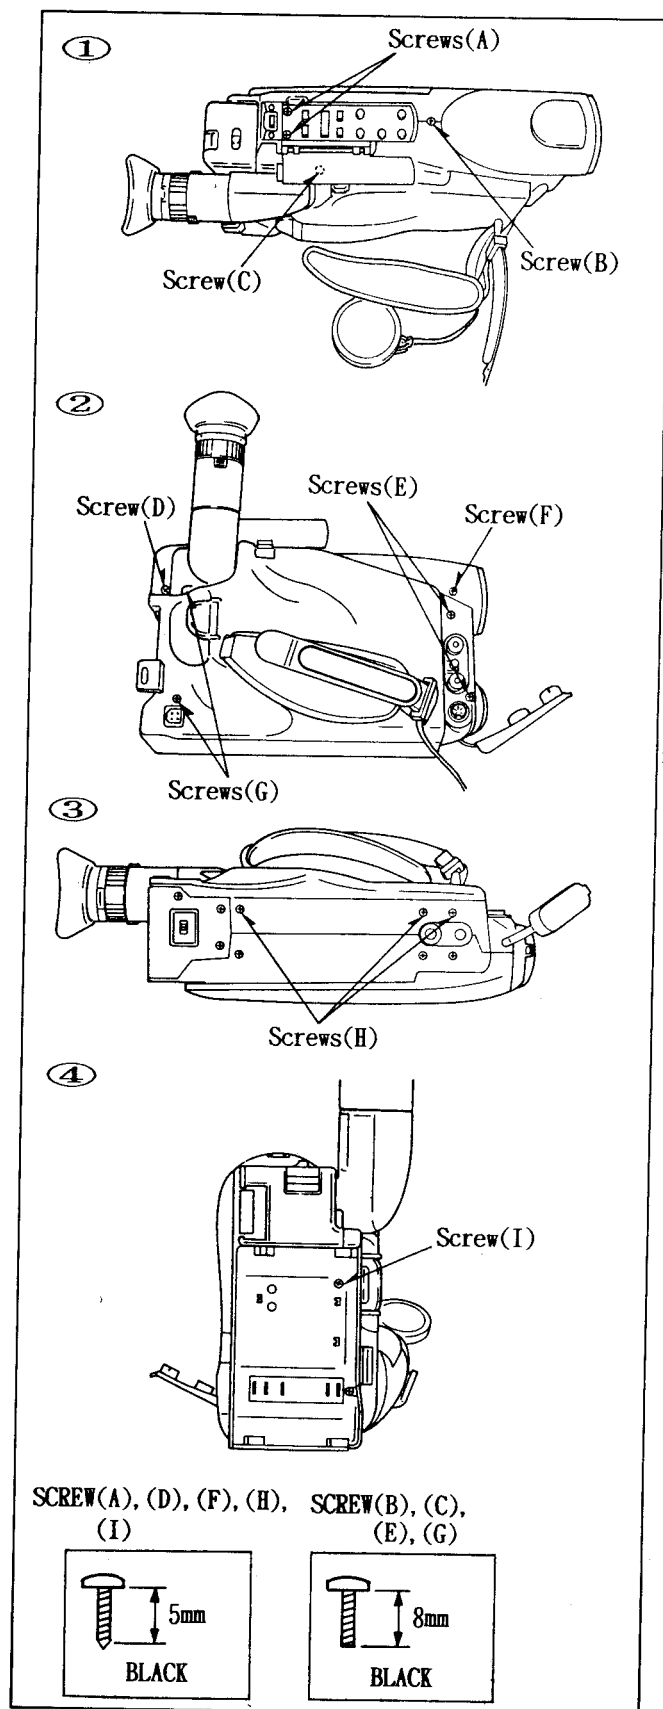
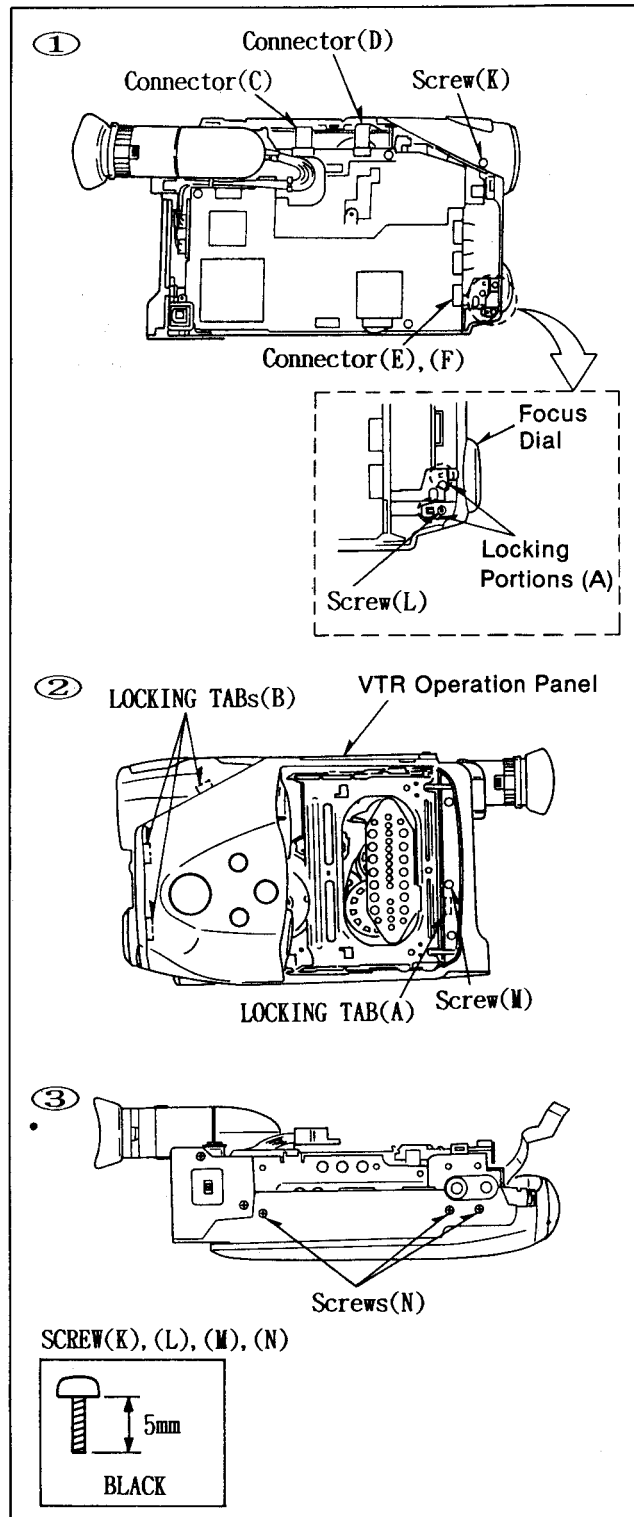
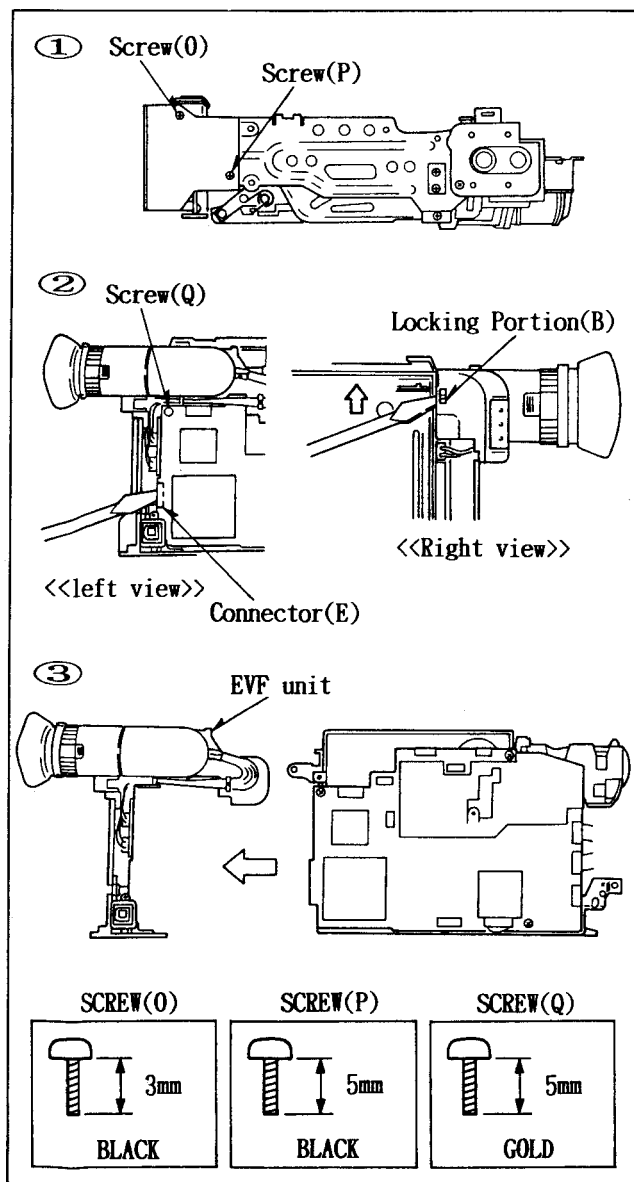

Fig. D2
Fig. D5
Fig. D6
1. Removal of Side Case (L).
(See Fig. D2 ①.)
(1). Remove Screw(B) and Screw(C).
(See Fig. D2 ②.)
(2). Remove 2 Screws(E) and 2 Screws(G).
(See Fig. D2 ③.)
(See Fig. D2 ④.)
*. To make easy disassemble, do (1) and (2).
(See Fig. D5 ①)
(1). Removal.....Screw(K) and Screw(L).
(See Fig. D5 ②)
(See Fig. D5 ③)
(5). Disconnect...Connector(C) and Connector(D).
- (1). Disconnect.... Connector(C) and Connector(D).
- (2). Remove.....Screw(K) and Screw(L)
- (3). Un-lock.....Locking portion(A).
(See Fig. D6 ①)
- (1). Remove.....Screw(O) and Screw(P).
(See Fig. D2 ②)
- (2). Remove.....Screw(Q).
(See Fig. D6 ②)
- (3). Disconnect.....Connector(E).
- (4). Locking Portion...Locking portion(B).